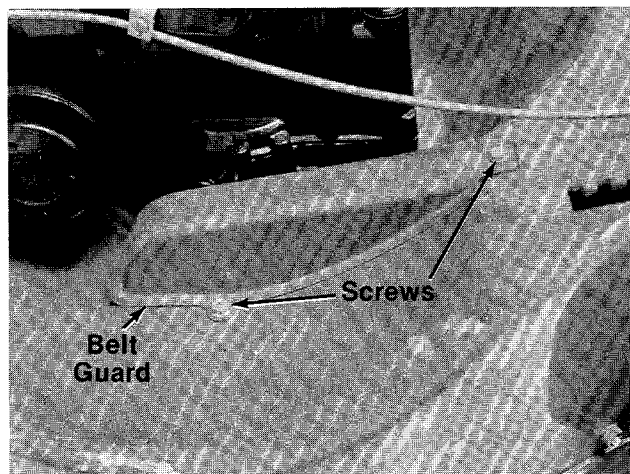

FIGURE 20.
3. Remove the two screws which hold the belt guard to the deck. See figure 20.